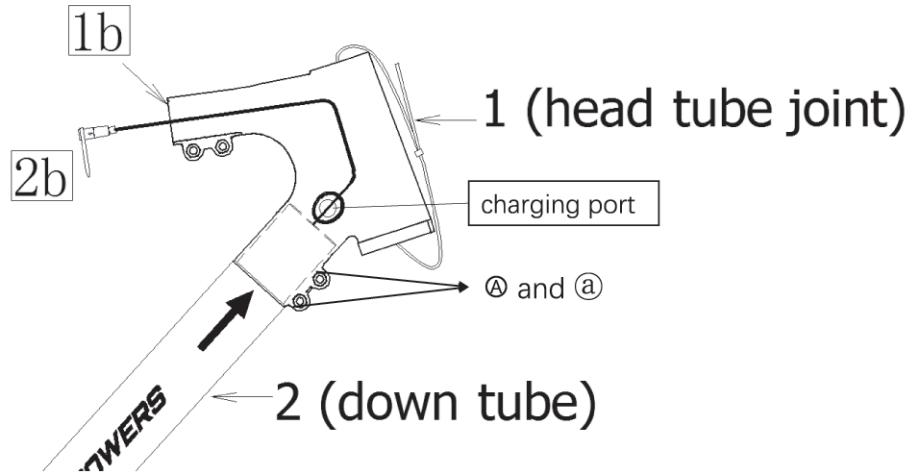

Figure 4. Insert Part 2 into Part 1
d. Insert Part 2 into Part 1 but do not tighten the bolts, Ⓐ and ⓐ , that have already been installed on Part 1 yet, as shown in Figure 4.